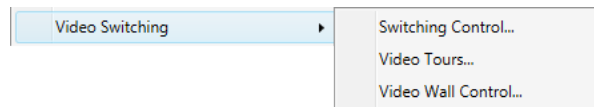

Figure 3-28 – Video Switching Menu
- **Video Switching Menu** (see Figure 3-28): This option allows the operator to perform video switching from camera and video tours to select monitors for display and manage the video wall. This software is described in detail in Section 3.2.21.